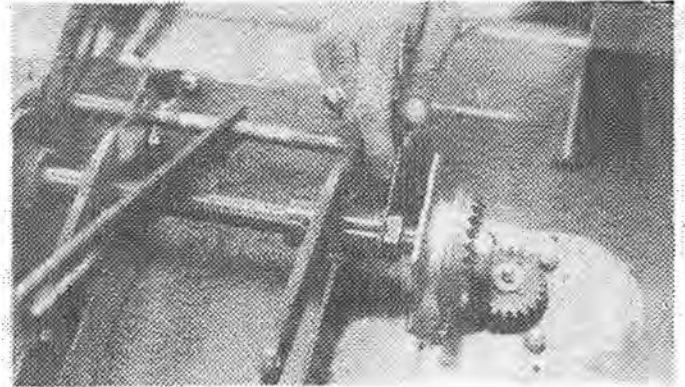

FIGURE 11
2. Adjust nut with .020" shim placed between the lock nut and coupling until clearance between face gears and spur gears has been removed. (See Fig. 11.)